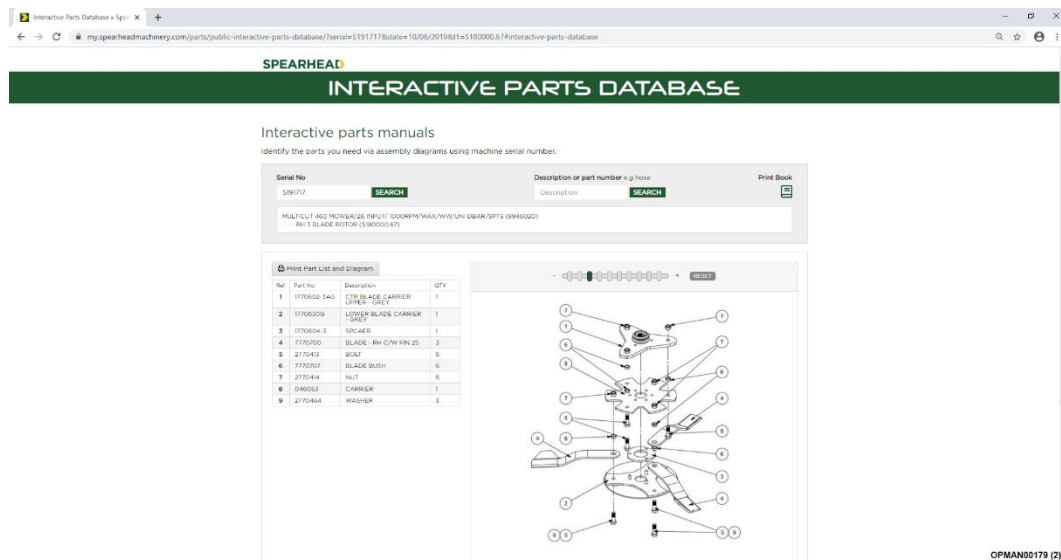

Figure 23 – Exploded Parts Breakdown With Bill Of Materials
- 7.2.1.4 You will finally be presented with a full exploded parts breakdown for that particular assembly, giving part numbers and the quantities required; see Figure 23.